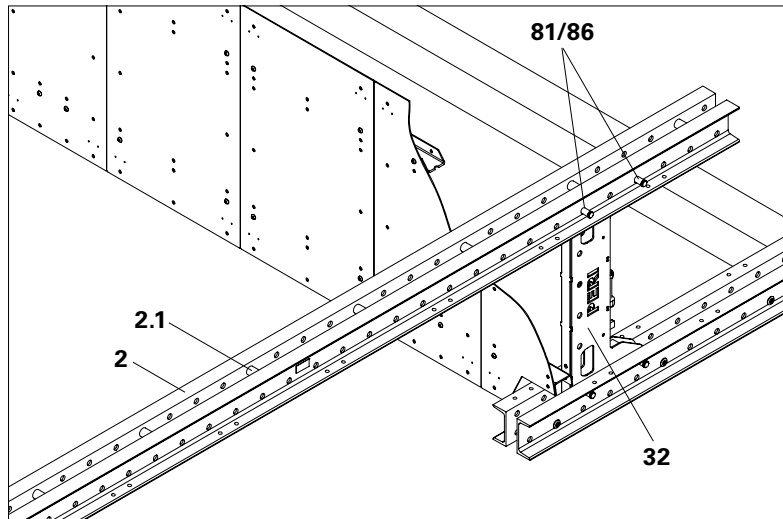

Fig. C1.15
1. Turn Climbing Rail 398 (2) so that the Spacers (2.1) are on the upper side.
2. Position the Climbing Rail on the Platform Cantilever Beam (32) with the crane.
3. Secure the Climbing Rail with 2x Fitting Pins (81) and Cotter Pins (86).
- (Fig. C1.15)